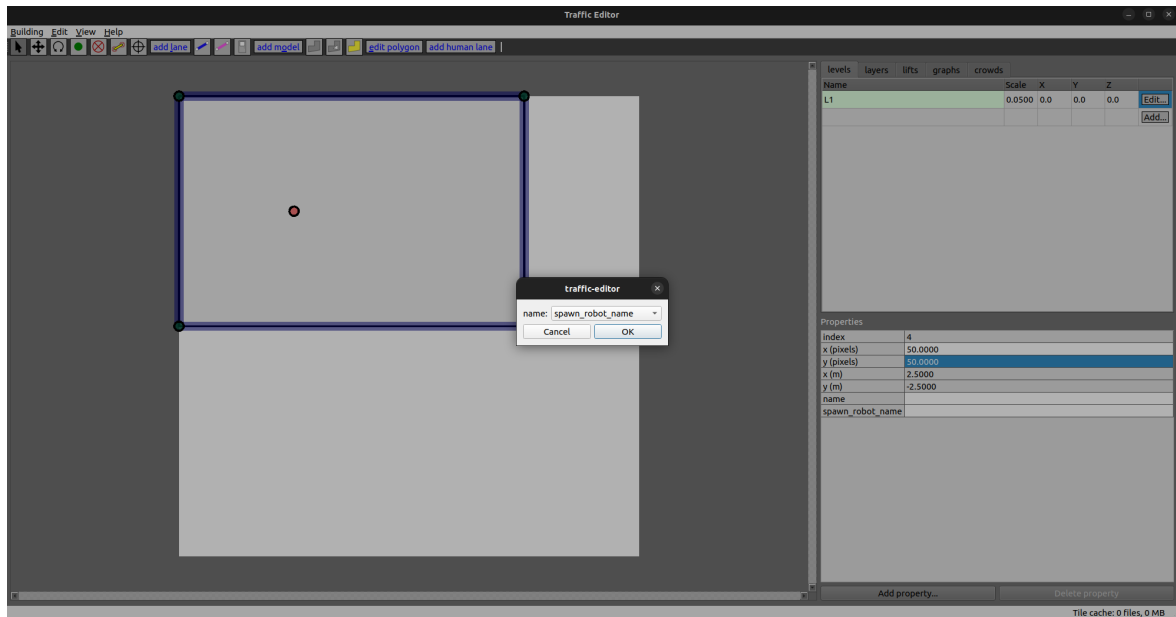
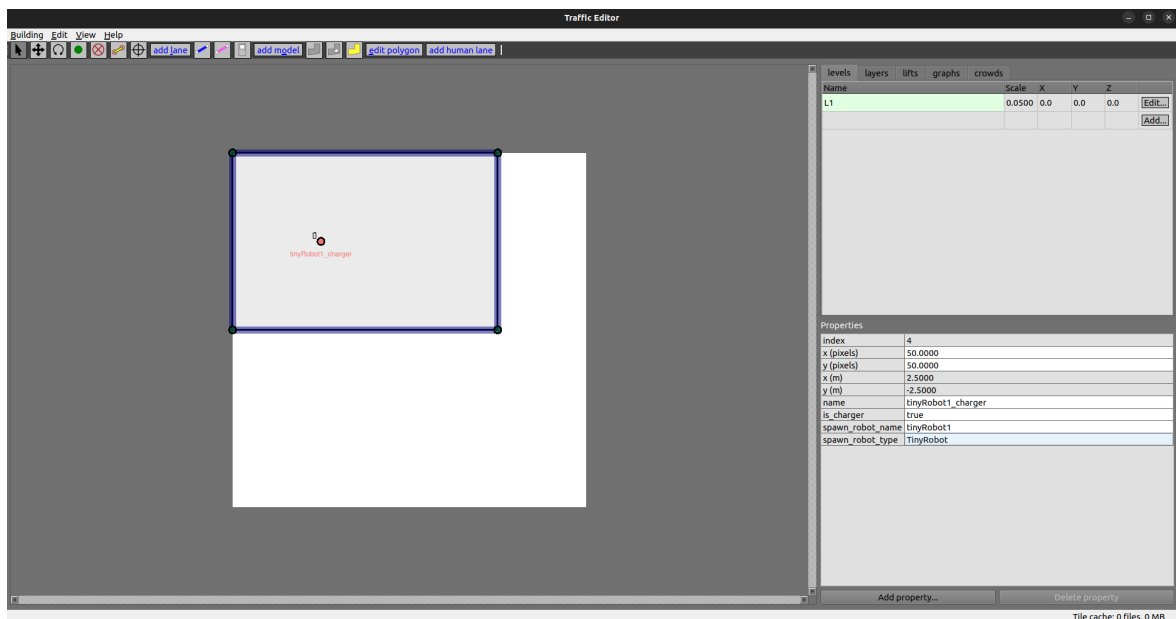

Figure 7: Spawning a Robot
Figure 8: Robot Configuration
- Create a vertex at coordinates (50, 50), remember, use 'V' to apply the vertex tool. Set the x and y properties to 50 and add the spawn_robot_name, spawn_robot_type, and is_charger properties (Figure 7), this is done by clicking in the "Add property..." button and selection the proper options in the dropdown menu. Set the name of the vertex to tinyRobot1_charger, is_charger to true, spawn_robot_name to tinyRobot1 and spawn_robot_type to TinyRobot (Figure 8). Check the configuration file project_config / config / test1 / tinyRobot_config .yaml as this properties should have the same names.